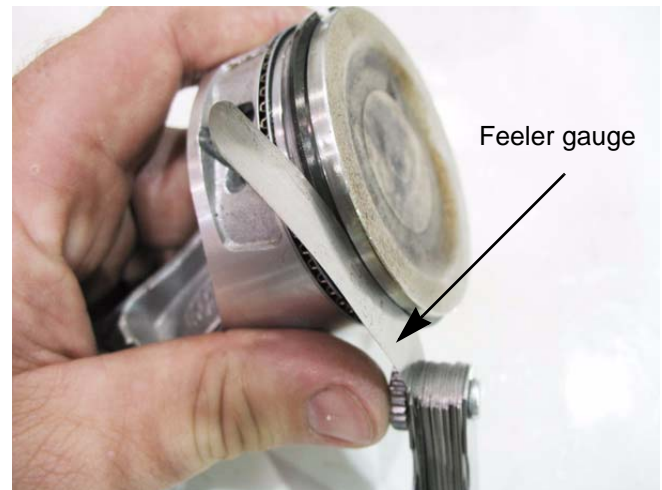

Figure 10.11
7. Measure the distance between the ring and the ring land using a feeler gauge and compare the measurement to the chart at the end of this chapter. See Figure 10.11.